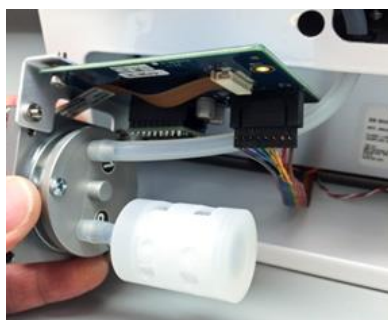

Figure 29: Attach muffler
9. Attach the muffler to P, tubing to V, and cable to the new pump (Figure 29).